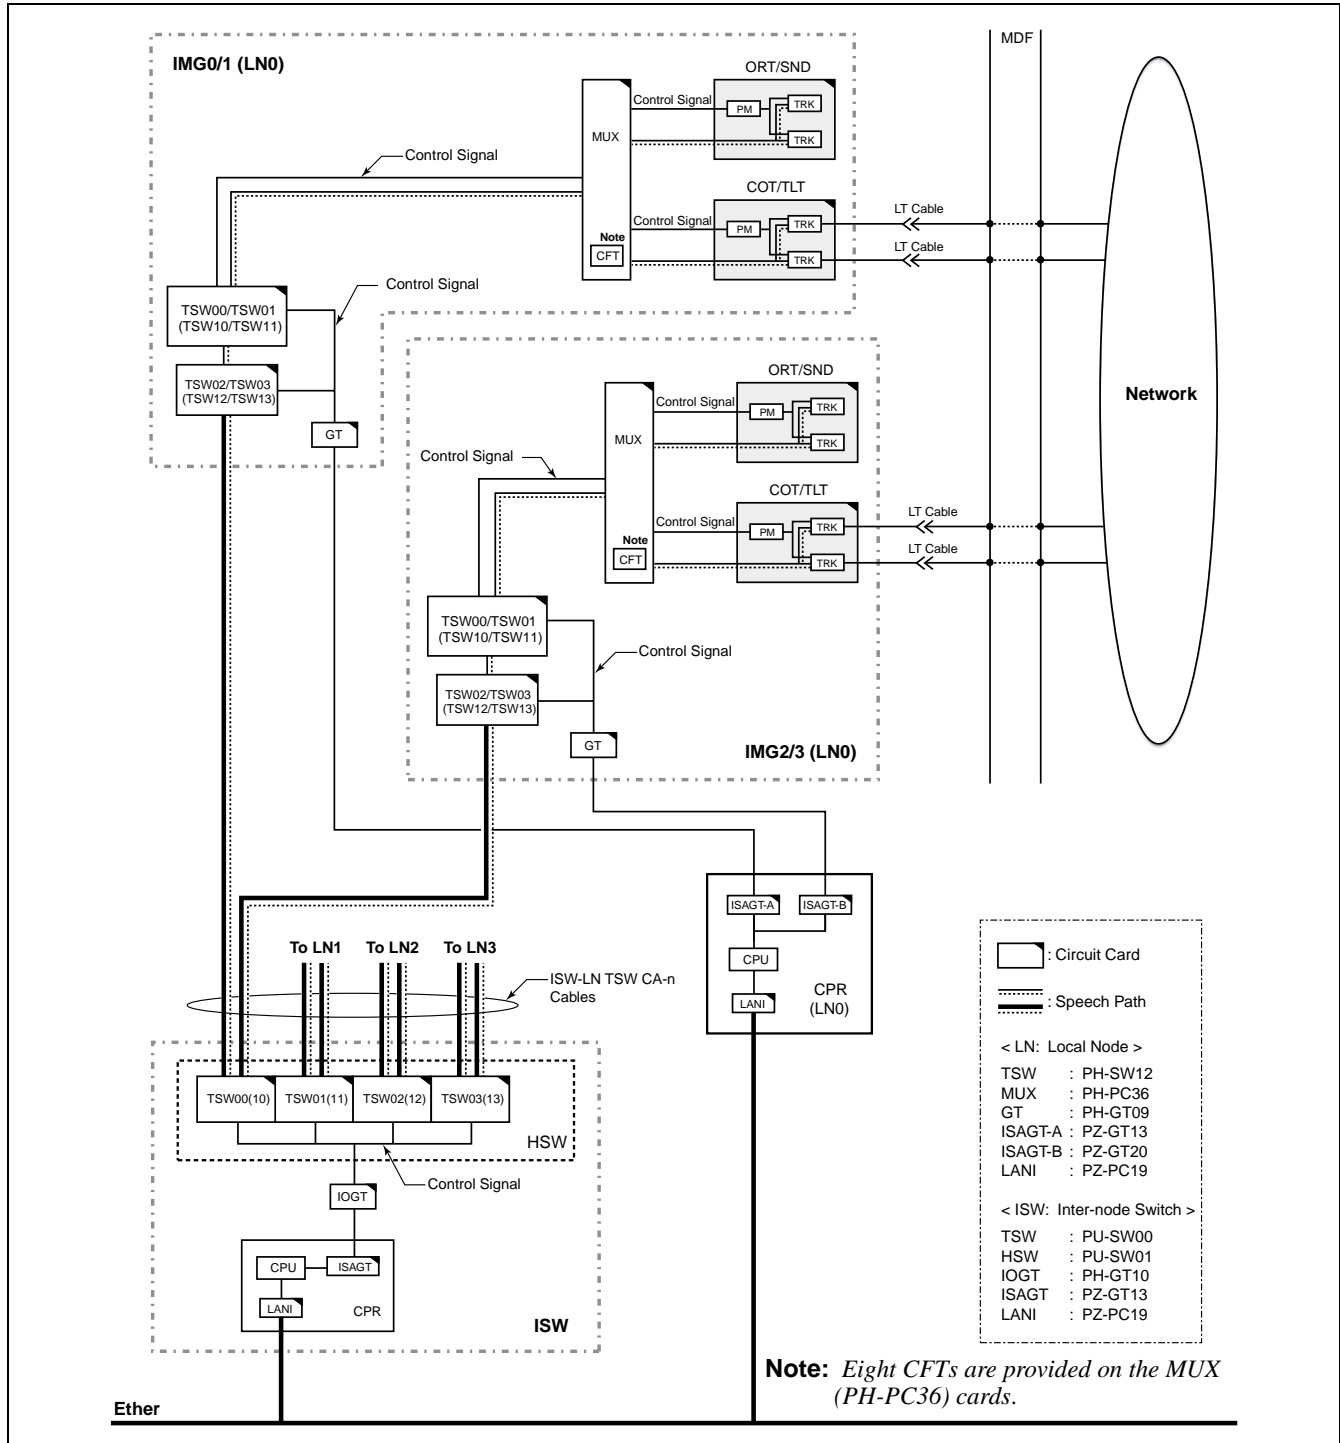

Figure 5-2 Controlling Trunk Circuit Cards and Speech Path
Trunk circuit cards are controlled from the CPU via the MUX. Each trunk line in a specific trunk circuit card is controlled by the Port Microprocessor (PM) in a trunk circuit card. Figure 5-2 shows the control route of the trunk circuit card.